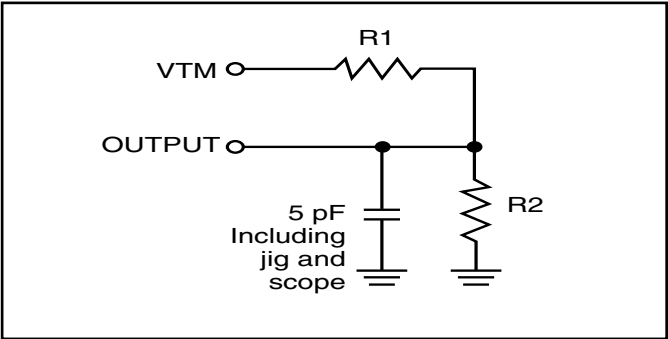

Figure 2.
2. Tested with the load in Figure 2. Transition is measured  $\pm 500$  mV from steady-state voltage. Not 100% tested.